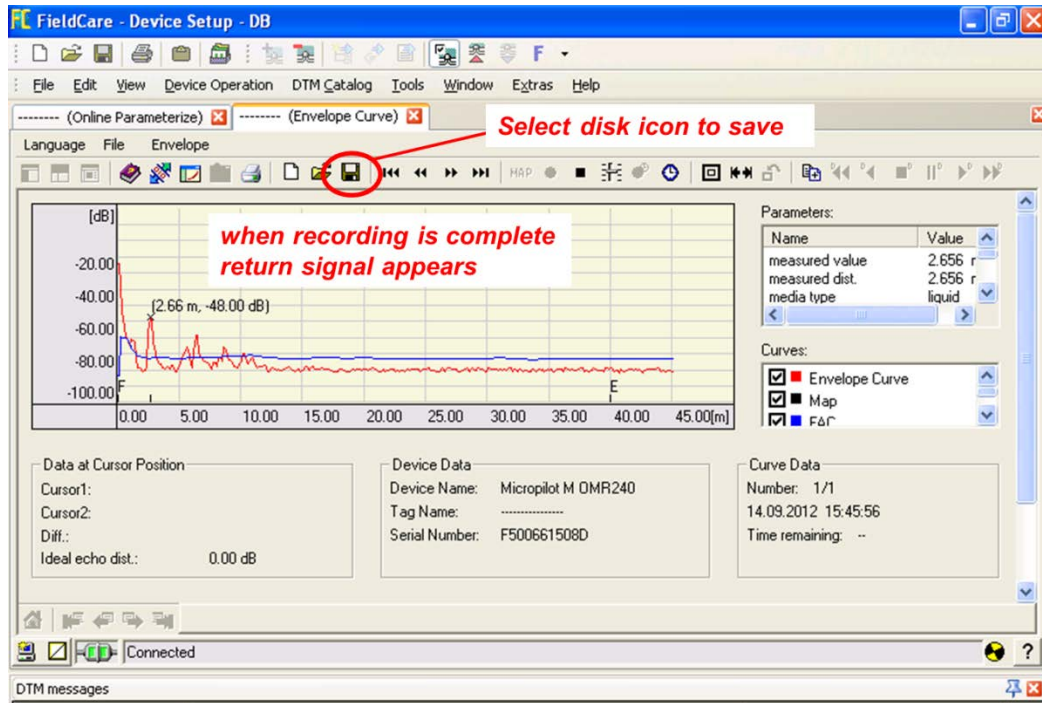
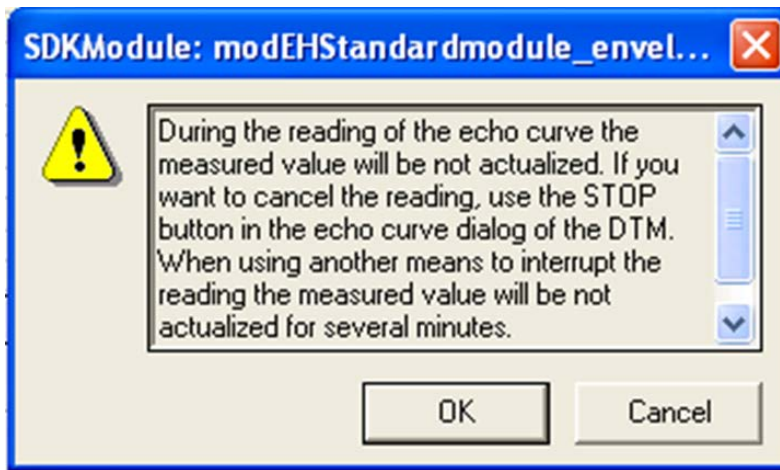

Figure 3-13. Save Envelope Curve
Figure 3-14. If this prompt appears, click OK.
The signal plot in fig. 3-13 is from a sensor 2.66 m away from a fixed target, with no obstructions. Note that the **max range** setting is at 45 m for this sensor, so a few secondary peaks corresponding to multipath signal reflections can be seen (signals are reflected from the target, then off of the sensor platform and back to the target, etc.).
6. After a return signal plot appears, save the file to a .Crv file by selecting the disk icon in the **Envelope Curve** window (fig. 3-13). If the prompt shown on fig. 3-14 appears, click **OK**.
If the return signal plot indicates that a target peak (marked by X) clearly does not correspond to the range-to-the-water surface (such as the one shown in fig. 3-13), there are several ways the **Envelope Curve** feature can be used to determine the cause of and solution to the problem.
Although the specific connection location of SDI cables to each type of Sutron Xpert DCP may vary slightly, the SDI connectors for 12-V power, ground, and data are clearly labeled on all types (marked by the red circle in fig 3-14 a-b).